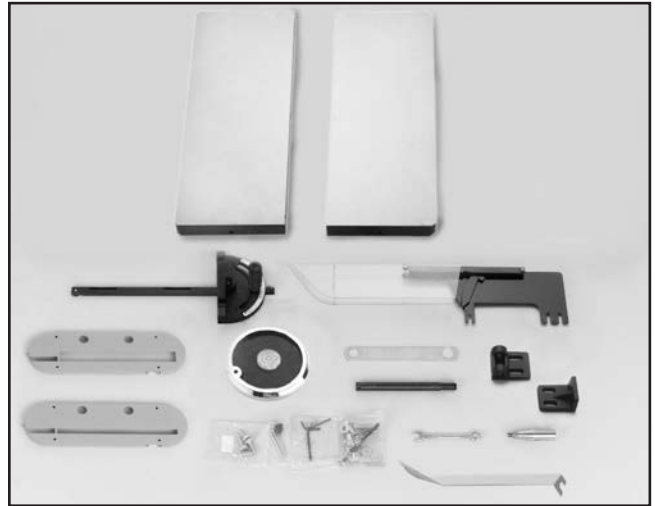

Figure 8. G1023 Series component layout.
- Extension Wings (2)
- Hardware Bag (**Figure 8**)